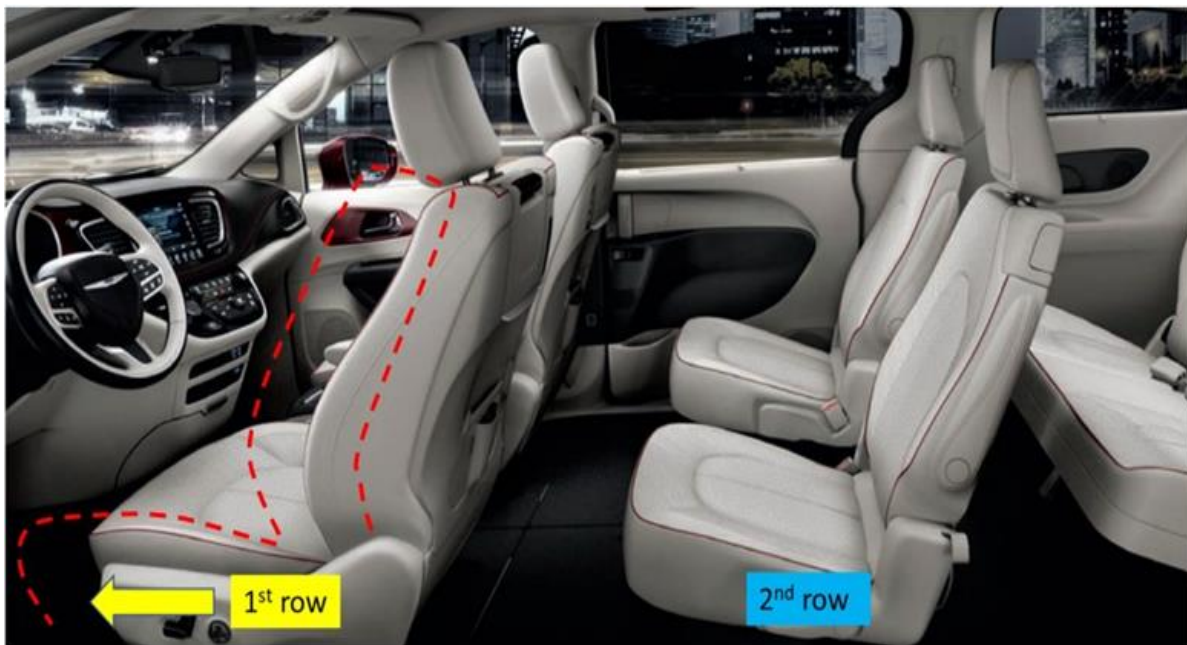

Figure 1 – Move Front Seats Forward
2. Move the front seats first row forward to create room for second row seat tumble function (Figure 1). **NOTE: Using the button on the B-pillar move the front seat forward. If button is not present is not present on the B-pillar, move the seat forward using seat switch button on front seat or manually move the seat using the towel bar.**